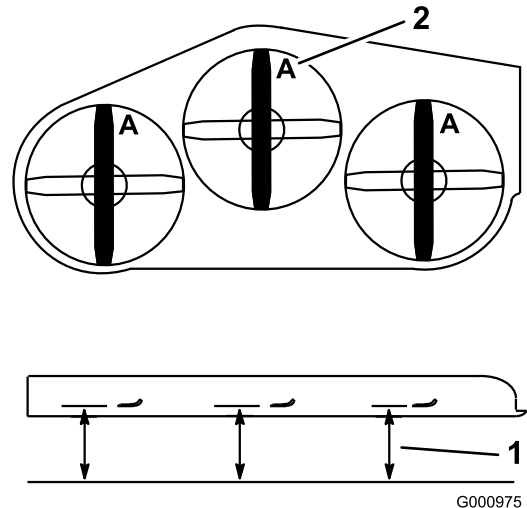

Figure 98
3. Rotate the blades until the ends face forward and backward (Figure 98). Measure from a level surface to the cutting edge, position A, of the blades (Figure 98). Note this dimension.